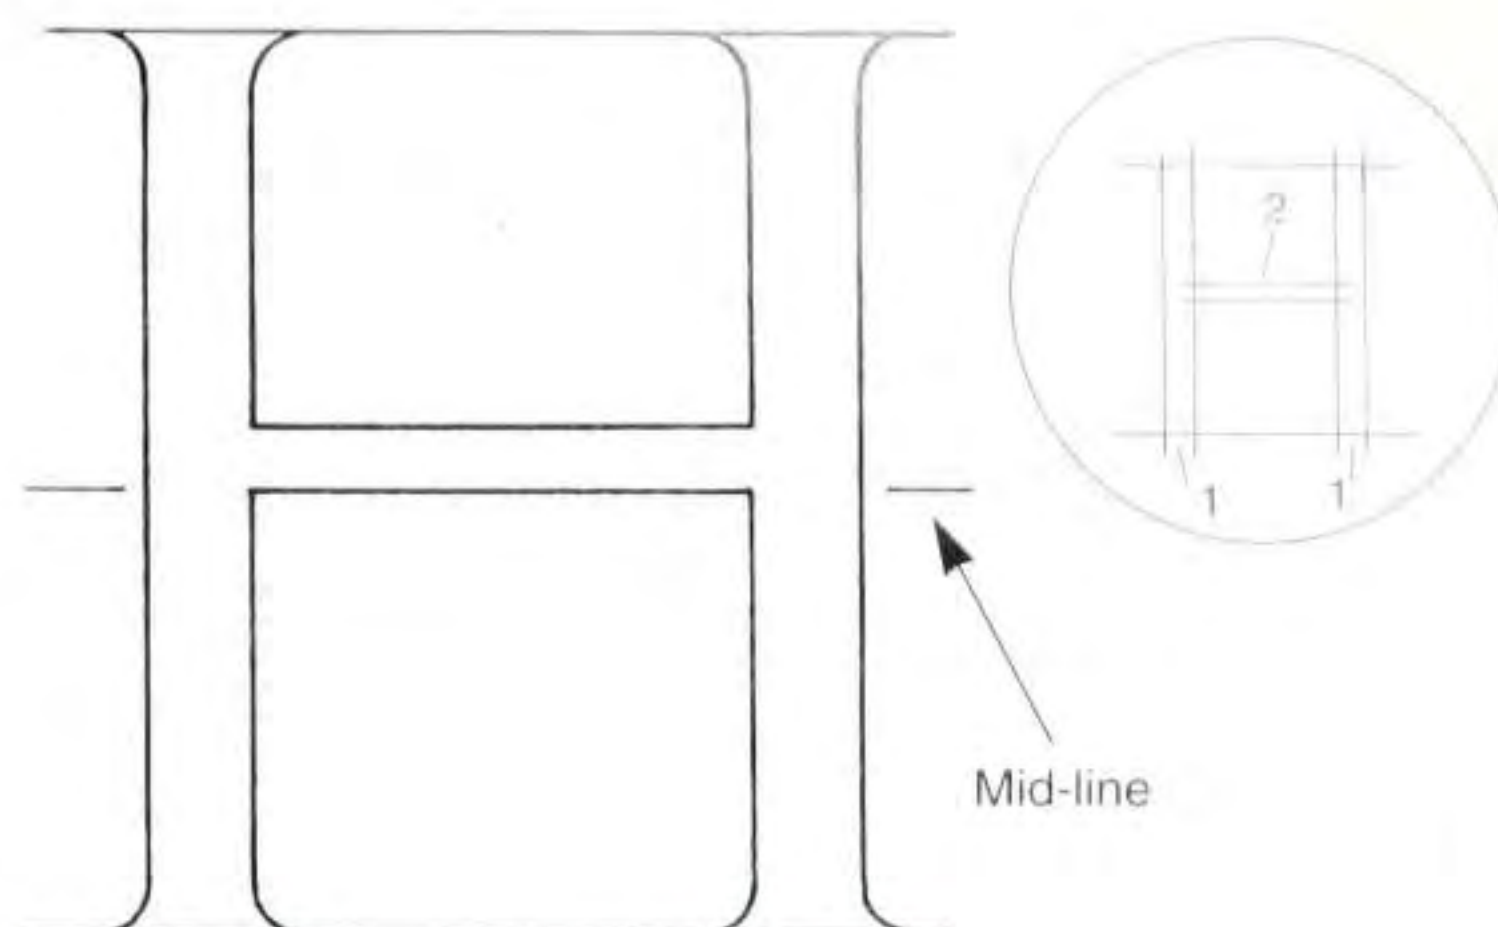

Fig 5.33 H: construction.
- 1 Refer to Fig 5.33. Cut the two vertical trenches first. The 40mm (1⁵/₈in) chisel I recommend for this letter size allows a gap at each end for cap and base serifs. If you are incising to a different size you must remember this and choose your chisel accordingly.